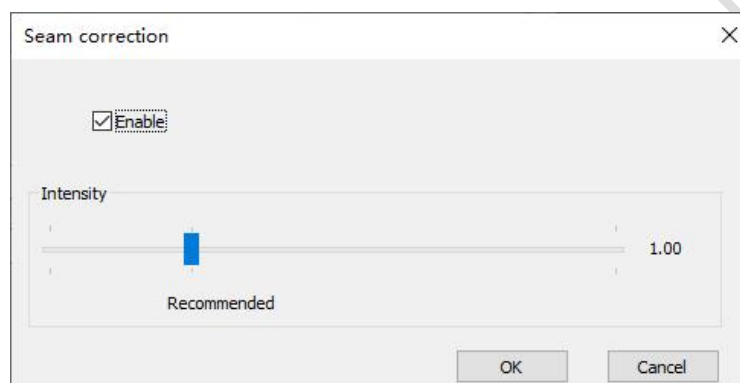

Fig.3-26 Seam correction settings
- **Seam correction:** Click **Seam correction** in the **Project Settings** tab, and then select the **Enable** checkbox in the pop-up window to enable the seam correction function. See Figure 3-26.